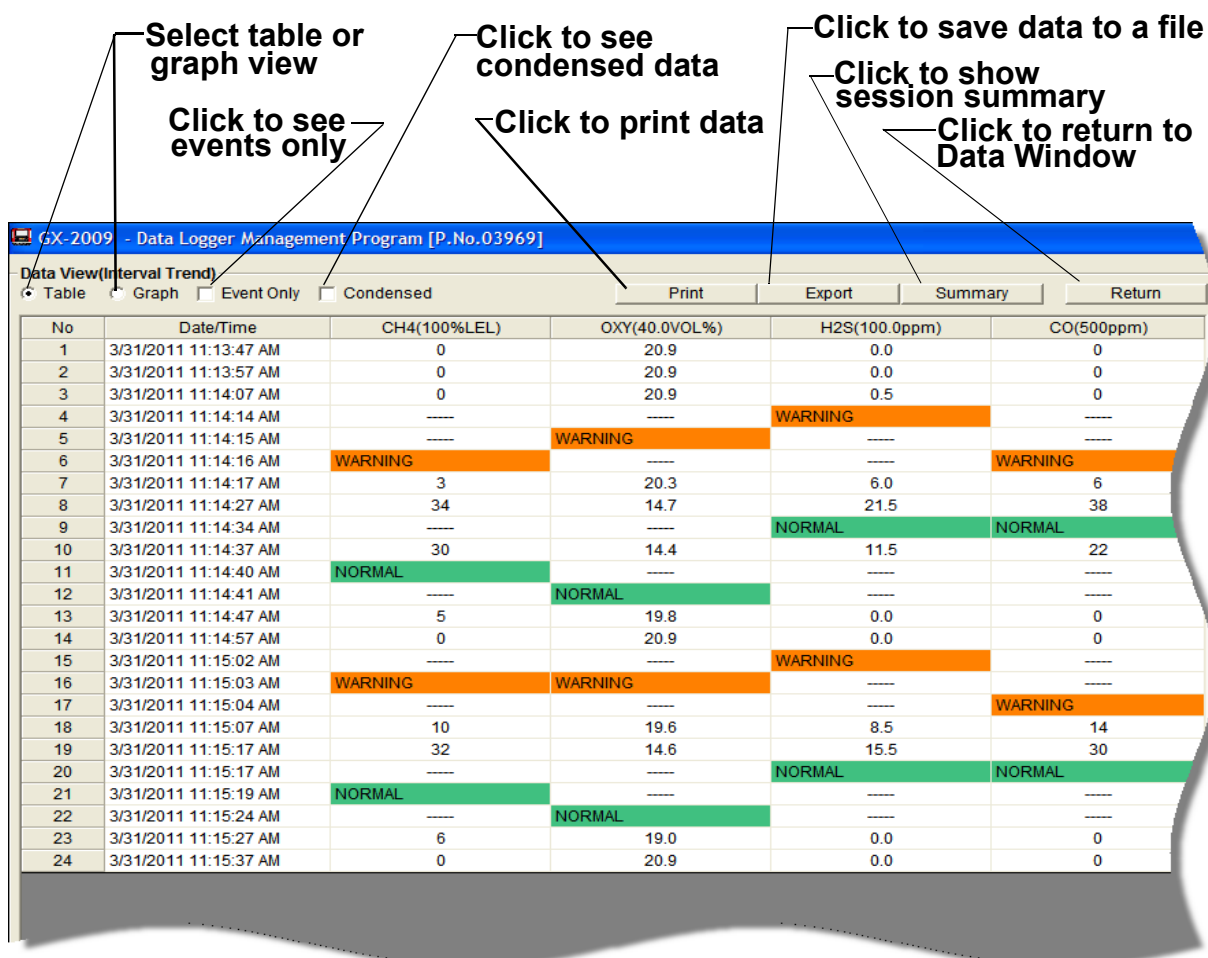

Figure 33: Interval Trend Data in Table Format
7. Interval trend data can be viewed in either table or graph format by selecting the Table or Graph selection buttons. The example below in Figure 33 is shown in table format.